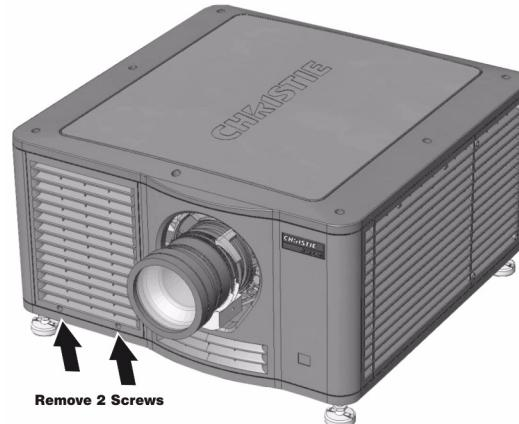

FIGURE 4-2 REPLACE FILTER
Replace the air filter (003-002311-xx) whenever the lamp module is replaced or sooner if operating the projector in a dusty or dirty environment. Check monthly in all cases. The filter is located on the front of the projector, behind the air filter cover (**Figure 4-2**).
1. Remove the 2 captive screws at the bottom of the filter door (**Figure 4-2**). Lift the door up and away from the projector.